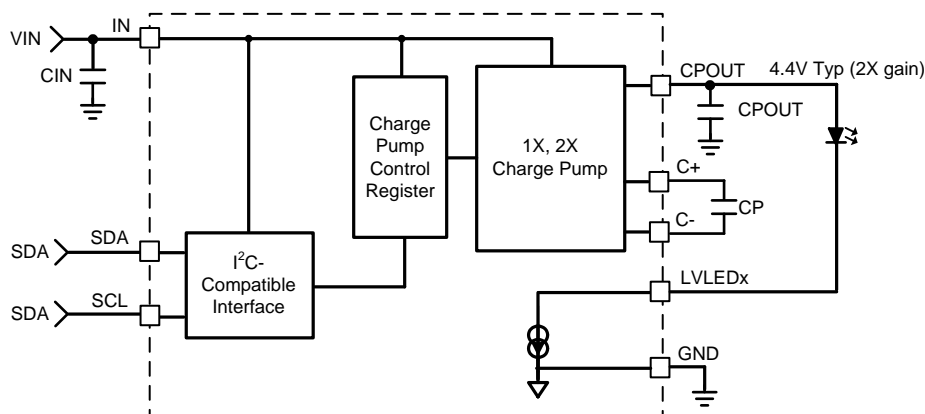

Figure 18. Integrated Charge Pump
The LM3633 features an integrated (2X/1X) charge pump capable of supplying LVLED1 to LVLED6 current. The fixed 1-MHz switching frequency allows for use of tiny 1- $\mu$ F ceramic flying capacitors (CP) and output capacitor (CPOUT). The charge pump can supply the power for the low-voltage LEDs connected to LVLED1 to LVLED6 and can operate in 4 different modes: disabled, automatic gain, 1X gain, or 2X gain (see Figure 18).